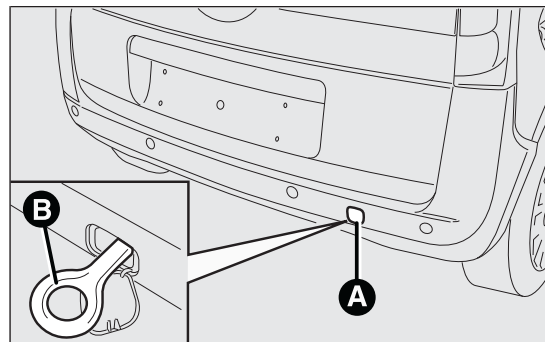
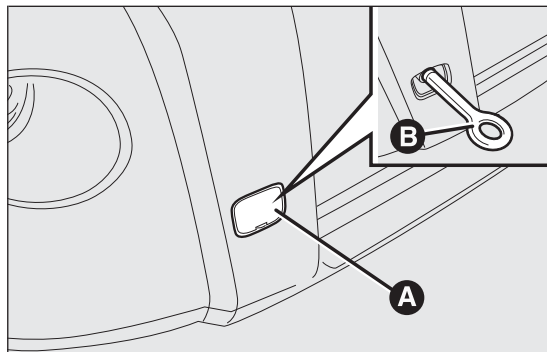

fig. 165
fig. 166
- ☐ release the cap A fig. 165 fig. 166;
- ☐ take the tow hook B fig. 165 fig. 166 from the tool bag;